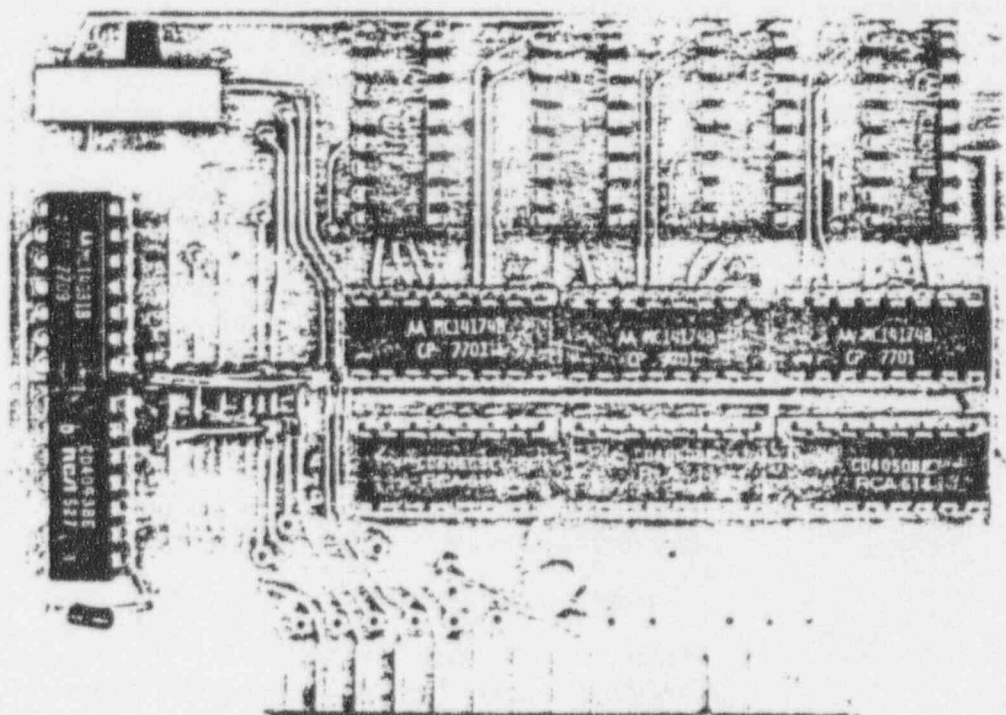

FIGURE 1-6. MODEL 911-BC BCD OUTPUT MODULE OPTION
1.2.4 Model 911-BC BCD Output Module Option (Figure 1-6)